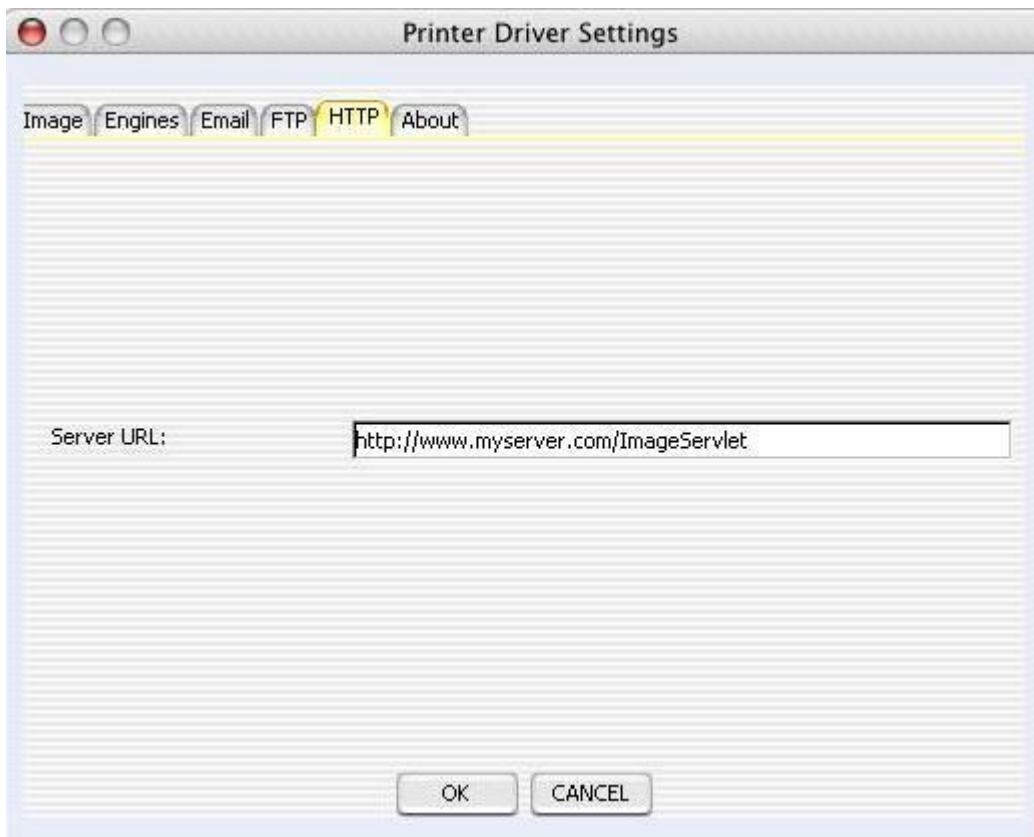

FIGURE 4
Besides being able to utilize FTP, the driver is also able to do HTTP (Hyper Text Transfer Protocol) posts. Figure 4 refers to these options.
- 1) Server URL – This is the full URL to a web server that can accept HTTP or HTTPS posts. The example in figure 4 is using HTTP. In order to do a secure upload, HTTPS may be used. To compare to figure 4, the URL would be 'https://www.myserver.com/ImageServlet' for secure transfer. The URL is parsed the standard way any HTTP URL is: protocol://domain_name:port/context.